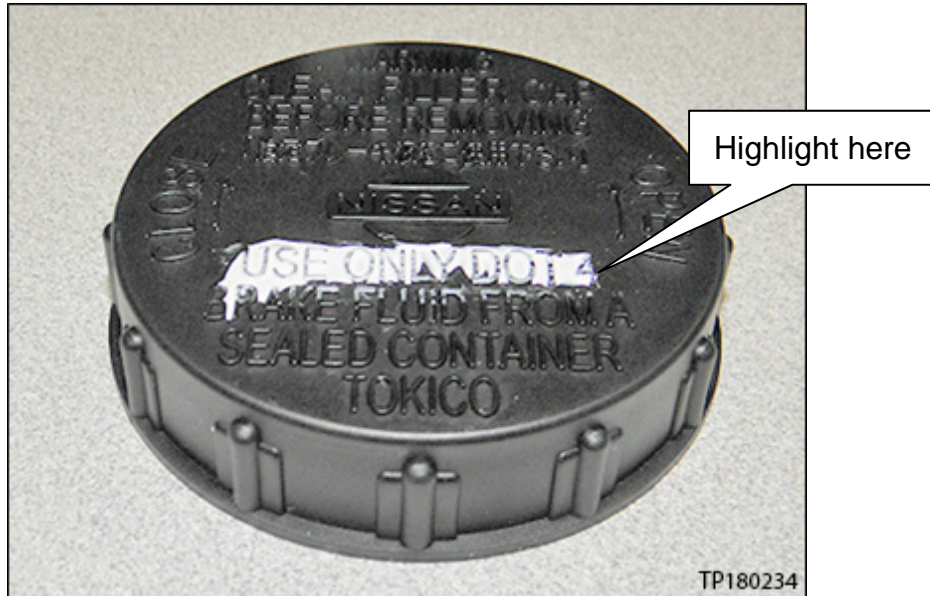

Figure 27
39. Mark the top of the new DOT 4 brake fluid reservoir cap with white touch-up paint, as shown in Figure 27.